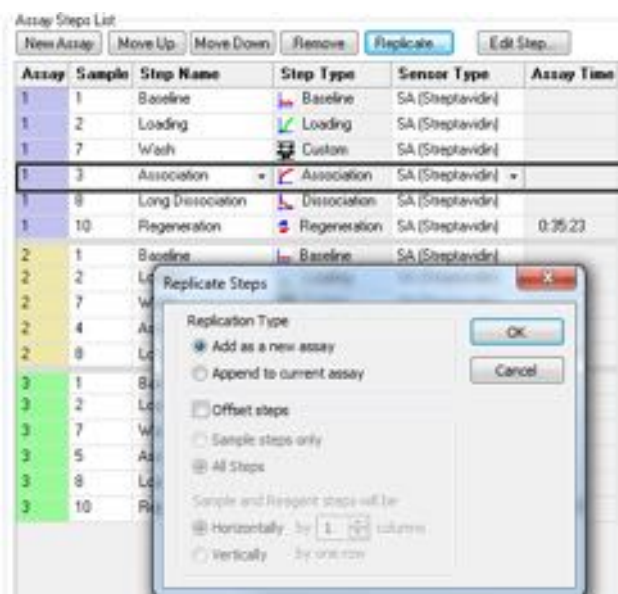

Figure 10-49: Adding a Replicate Assay to a Plate
2. In the **Replicate Steps** dialog box, click the **Add as a new assay** option (Figure 10-49).